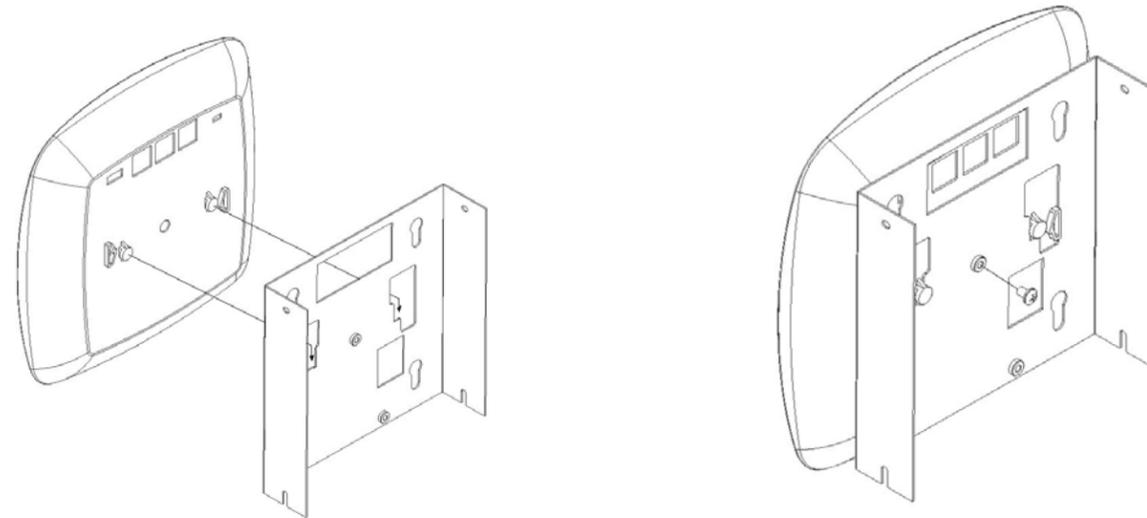

Figure 3 - Aruba Installation
Step 2 - (**ARUBA INSTALLATIONS**) To install an Aruba access point, align the round bosses on the back of the access point with the opening on the cover of the Oberon mount. Slide the access point down and secure in place using the #8-32 screw or plunger. Install the screw into the center nut to prevent the access point from being dislodged (Ref. Figure 3).